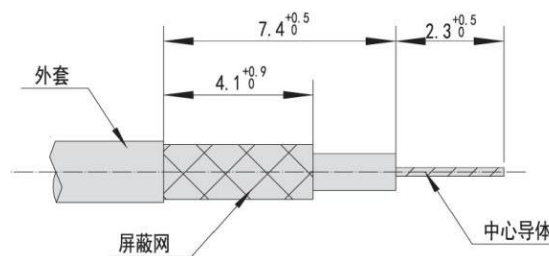

Figure 2.1
① Peel off the cable as shown in Figure 2.1. The ends must be cut clean and set at right angles to the axial surface of the cable. When cutting, the cable must not deform.